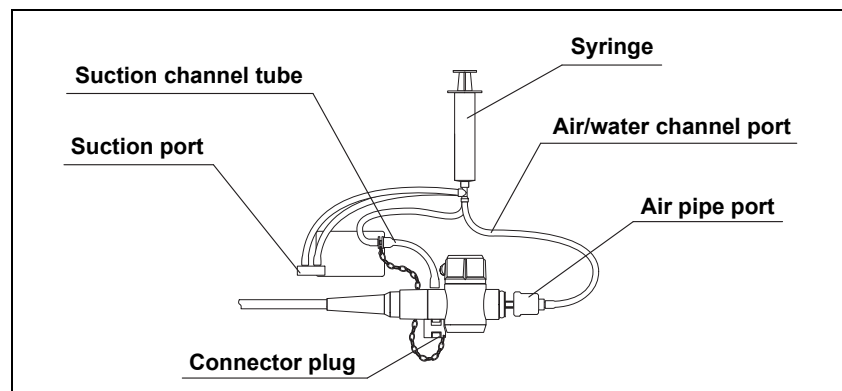

Figure 3.26
3. Attach the injection tube's connector plug to the air and water supply connectors on the endoscope connector (see Figure 3.26).
4. Attach the injection tube's air pipe port to the air pipe on the endoscope connector (see Figure 3.26).
5. Attach the injection tube's suction channel tube to the suction connector on the endoscope connector (see Figure 3.26).